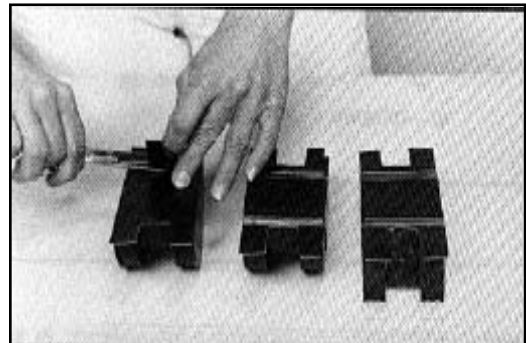

FIGURE 14 - SQUARE CUT BOLT HOLES
6.05 Square cut the tape away from the bolt holes. (The area just beyond the metal insert.) (Figure 14)